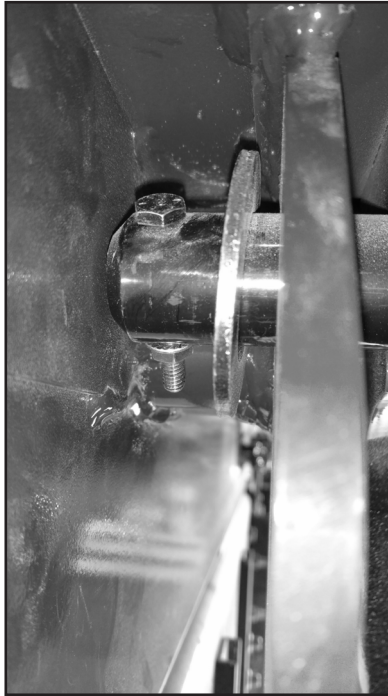

Figure 3
6. Insert the bolt into the hole on the body lift pin (Figure 3).
7. Install the nut and tighten until it is secure on the bolt (Figure 3).